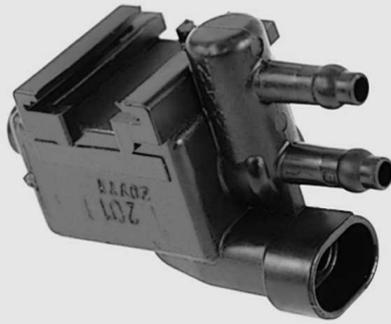

Figure 4-53. Purge Solenoid
5. Insert a small flat blade screwdriver between purge solenoid and bracket on left side of motorcycle. Rotate screwdriver slightly to depress middle locking finger on bracket and pull purge solenoid from motorcycle. See Figure 4-52 and Figure 4-53.